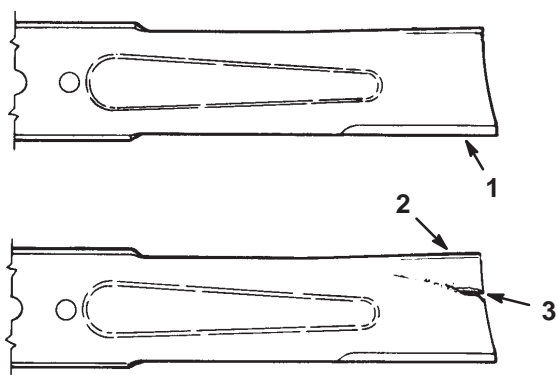

Figure 44
1. Inspect the cutting edges (Fig. 44). If the edges are not sharp or have nicks, remove and sharpen the blades. Refer to Sharpening the Blades on page 35.
2. Inspect the blades, especially the curved area (Fig. 44). If you notice any damage, wear, or a slot forming in this area (item 3 in Fig. 44), immediately install a new blade.